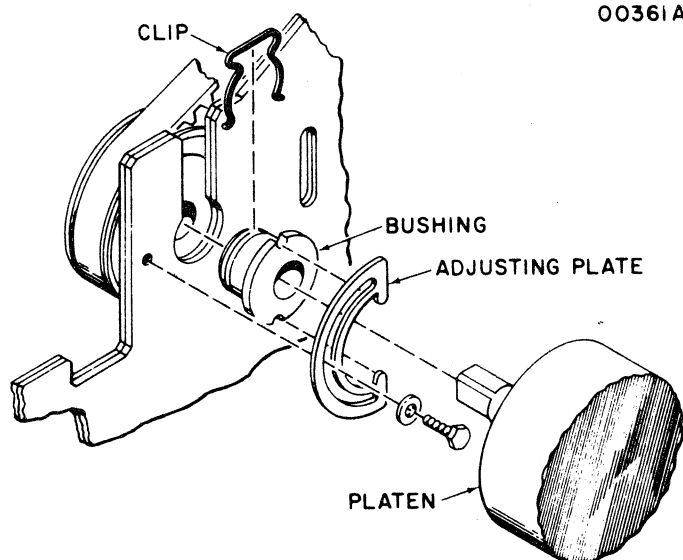

Figure 3-19. PLATEN ASSEMBLY ADJUSTMENTS
1. Remove the paper feed knob (15) from the right side of the platen assembly.
2. Remove the two stop collar springs (3) on left and right end of platen assembly.
C. ADJUSTMENTS (Refer to Figure 3-19)